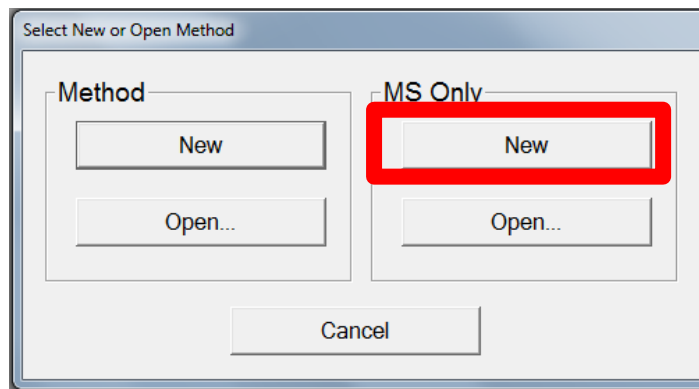

Figure 4.5 – Selecting an MS only method
5. Select “New” under the MS Only option (Figure 4.5).